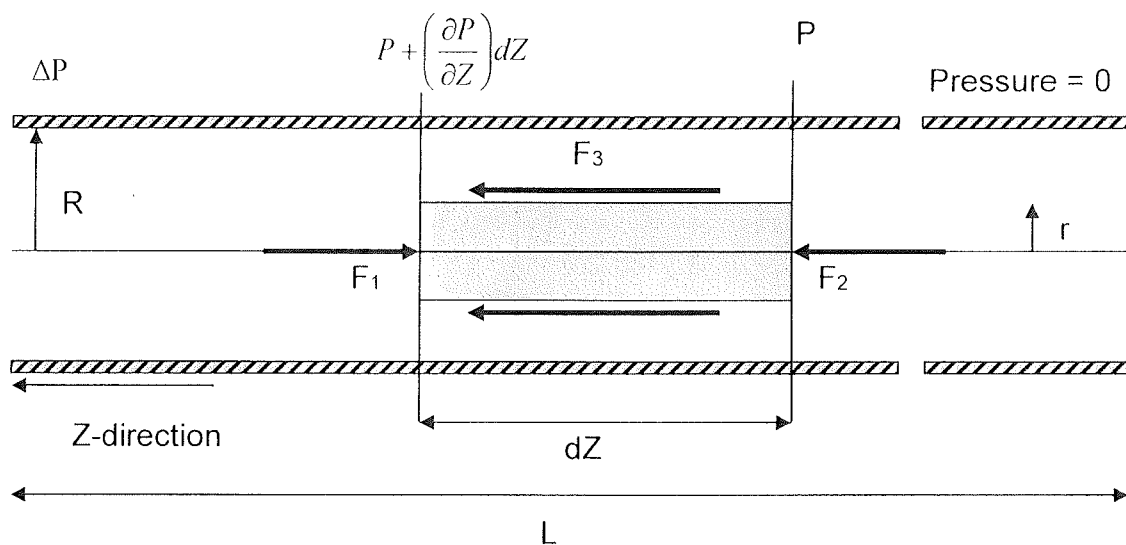

Figure 1. Balances of forces on a fluid element moving along with the flow in a pipe.
- [d] Obtain the expression for shear stress at wall for a Newtonian fluid flow through a pipe (Figure 1). State your assumptions.